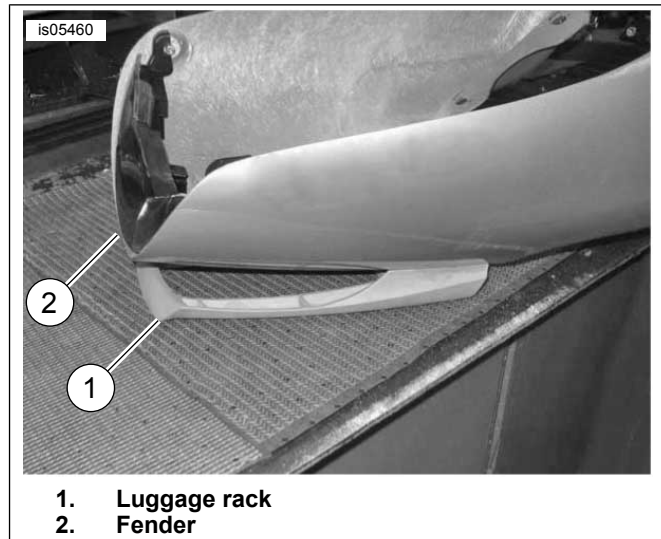

Figure 3. Align Luggage Rack and Fender
- See Figure 3. Put the upright upside down on the work bench and align the holes with the holes in the fender.
- Align the mounting holes of the support bracket (H) with the mounting holes of the upright.
8. See Figure 3. Put the luggage rack/upright assembly upside down on the work bench and align the holes in the luggage rack with the holes in the fender.
9. Align the mounting holes of the support bracket (H) with the mounting holes of the upright and luggage rack.